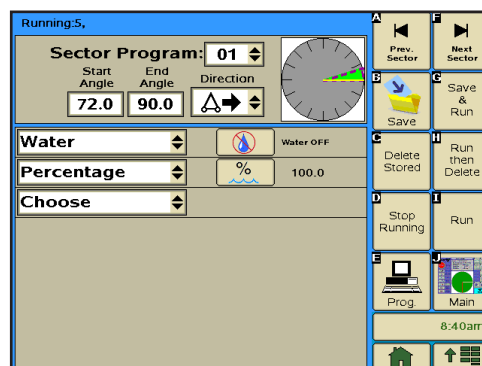

Figure 102-2
1. Push **Prog.** and **Sector Prog.** to view the Sector Program screen. Refer to Figure 102-2.
3. Program the start and end angles, and direction for this sector. Refer to Figure 102-2.
4. Enter the commands for this sector. Refer to Figure 102-2.